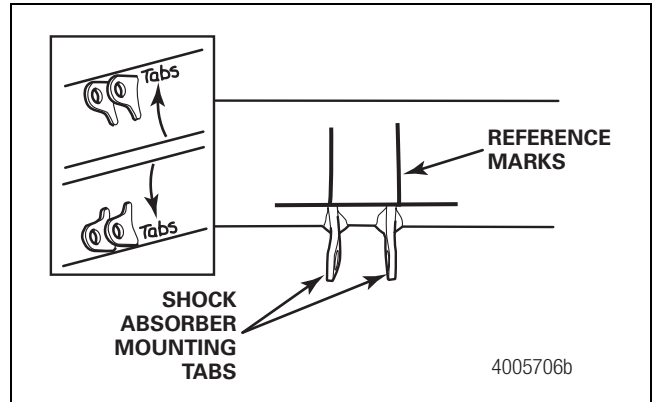

Figure 4
- A. Apply reference marks to indicate the center position of each mounting tab and which way the longer tab ends face. The axles with a ride height of 16-1/2-inches (419 mm) and 18-1/2-inches (470 mm) have tabs that face UP. The axles with a ride height of 17-1/2-inches (445 mm) have tabs that face DOWN. Figure 4.